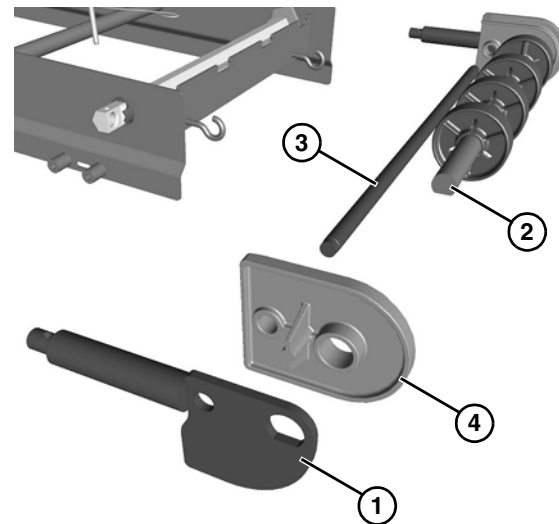

Figure 65
3. Remove the shaft assembly (Figure 65, item 1) from idler shaft (Figure 65, item 2) and pinch guard shaft (Figure 65, item 3).
4. Remove tracking plate (Figure 65, item 4) from idler shaft and pinch guard shaft.
5. Remove pinch guard shaft (Figure 65, item 2).